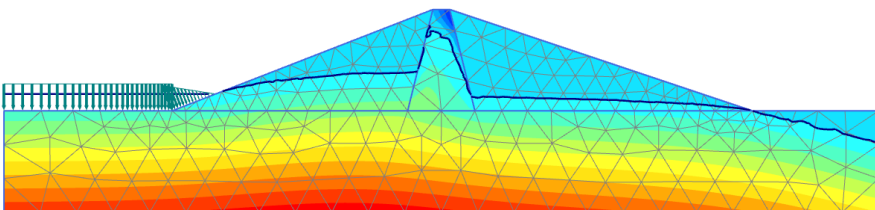

Figure 8.16 Pore pressure distribution, ( $p_{active}$ ), after slow drawdown
- The pore pressure distribution after slow drawdown of the reservoir level (Figure 8.16).